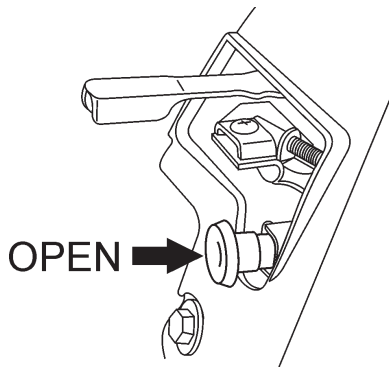

Figure 33. Choke Lever (Open Position)
4. If operating the Cutter 3 CE in **cold weather conditions**, skip this step and proceed to step 5. Place the **Choke Lever** (Figure 33) in the **OPEN** position. Skip to step 6.